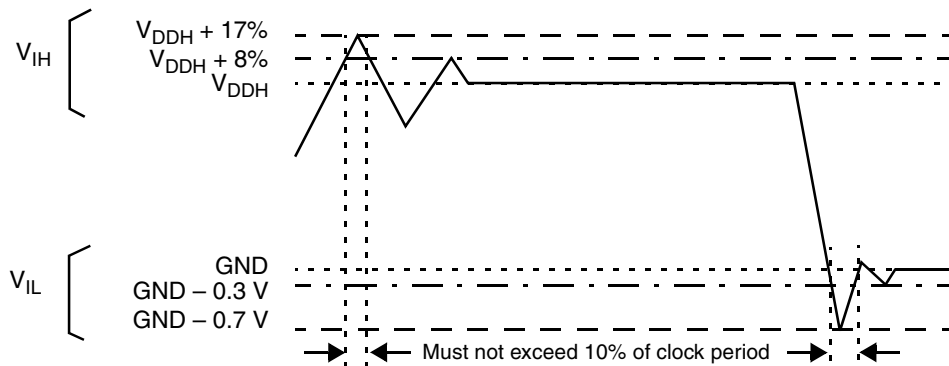

Figure 2-1. Overshoot/Undershoot Voltage for  $V_{IH}$  and  $V_{IL}$
1. See Figure 2-1 for undershoot and overshoot voltages.